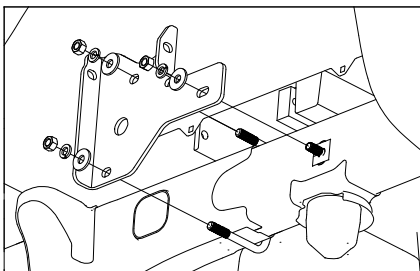
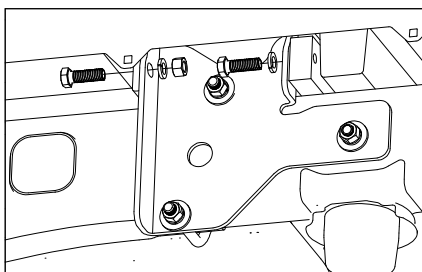

Figure C4: View looking is driver side wheel well.
Figure C5.
3. **Install the side plates.** Pass the side plates over the U-bolts and stud placed in the frame. Secure each side plate with flat washers, lock washers, and nuts, see Figure C4. Attach the front flange of the side plate to the front angle cross member by placing a 1/2" X 1-1/2" bolt through the front cross member, then secure to the side plate with a lock washer and nut. Next, attach the side plate to the rear bar by placing a 1/2" X 1-1/2" bolt with a lock washer through the side plate flange and threading it into the rear cross member, see Figure C5. Leave these bolted connections loose for the time being.